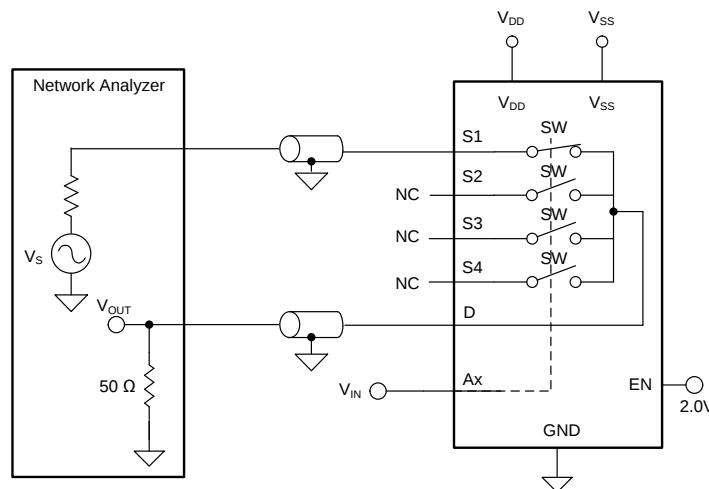

图 26. Bandwidth Measurement Setup
Bandwidth is defined as the range of frequencies that are attenuated by < 3 dB when the input is applied to the source pin (Sx) of an on-channel, and the output is measured at the drain pin (D) of the TMUX6104. 图 26 shows the setup used to measure bandwidth of the mux. Use 式 4 to compute the attenuation.